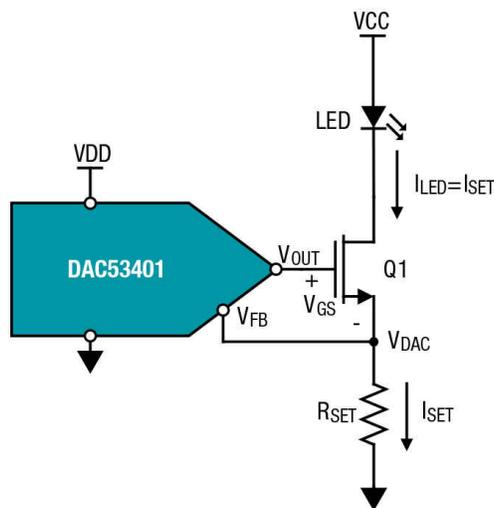

Figure 4. DAC53401 Biasing an LED
- Bias voltage generation, both fixed and variable** The electrically erasable programmable read-only memory (EEPROM) and slew-rate control features of the DAC53401 are a good fit for generating fixed or variable bias voltages. Figure 4 shows an example of a lighting application.